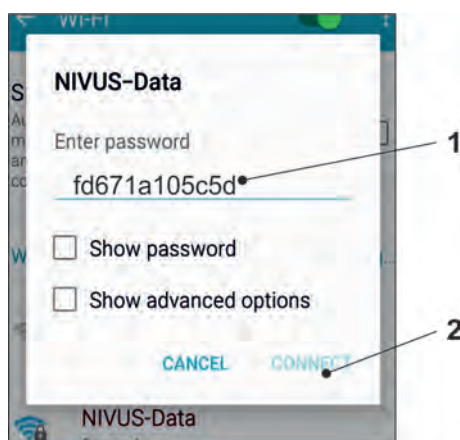

Fig. 30-5 Enter password (here fd671a105c5d as example) and connect
5. Enter the password for server access (delivery status = PUK) (Fig. 30-5 Pos. 1) and connect (Fig. 30-5 Pos. 2).